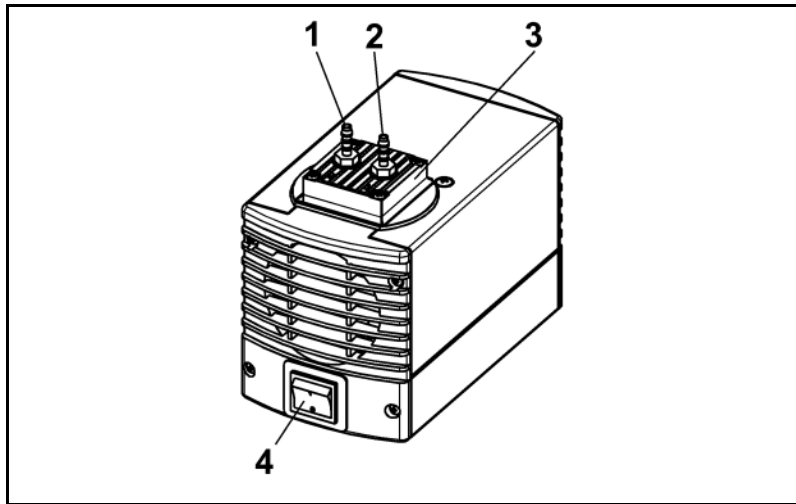

Fig. 2
- Switch on pump with mains switch (see fig. 2)
- Switch off pump with mains switch (see fig. 2)